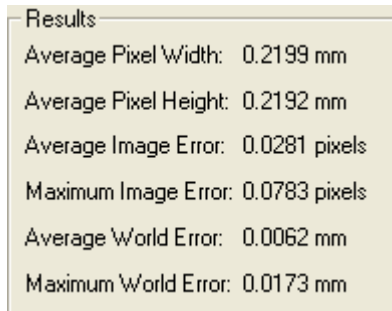

Figure 229 Calibration Results after Solving the Calibration
14. Click **Solve**. Once the calibration is complete, the **Results** frame, as illustrated in Figure 229, displays the error statistics.